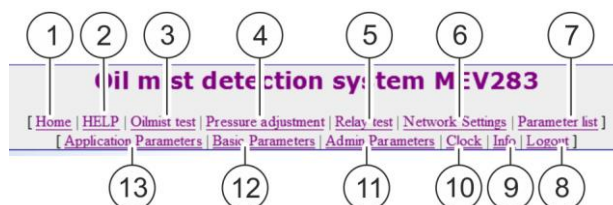

Fig. 40: Menu bar
1. Click on “Application parameters” (Fig. 40/13) or “Basic parameters” (Fig. 40/12) in the menu bar.